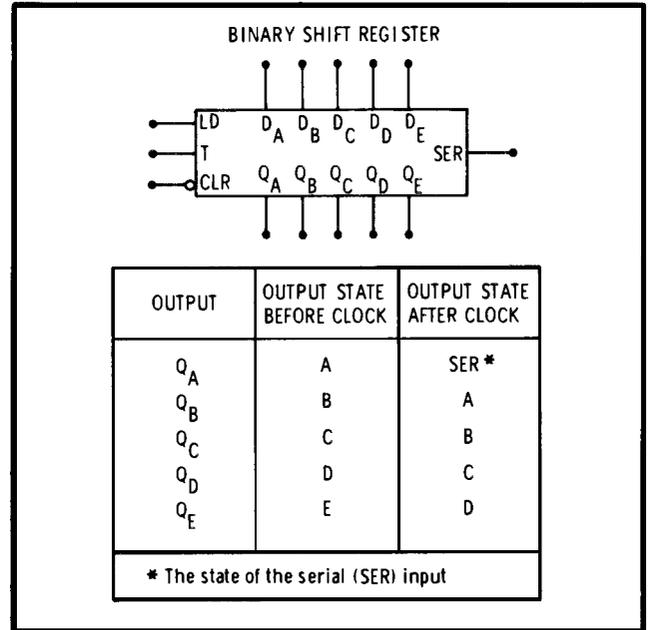

Figure 8-11. Binary Shift Register
8-57. Binary Shift Register. A five bit binary shift register is shown in Figure 8-11. Information of the data (D_n)* inputs is transferred to the respective Q_n * outputs when the load (LD) input is high. The load input is independent of the clock (T) input.